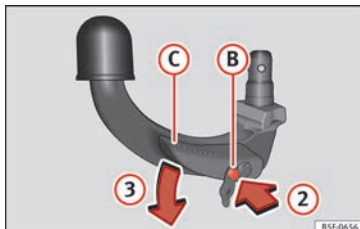

Fig. 227 Step 2
- Press the release bolt (B) in the direction of arrow ②, and at the same time press lever (C) in the direction of arrow ③ as far as it will go »» Fig. 227.